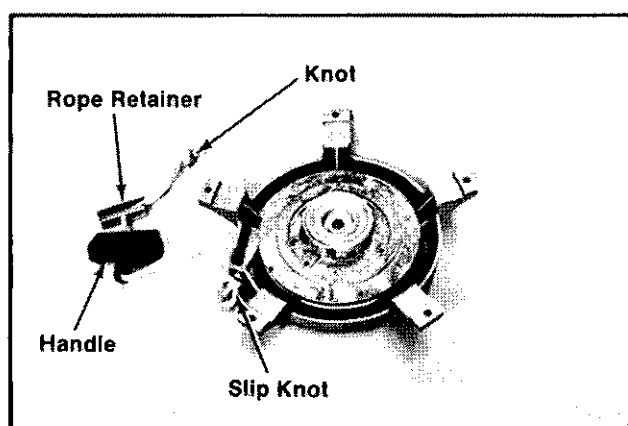

Figure 7-11. Removing Handle.
2. Pull the rope out approx. 12" and tie a temporary (slip) knot in it to keep it from retracting into starter. Refer to Figure 7-11.
Tie a single knot at the end of rope and install rope retainer into handle. Refer to Figure 7-11.